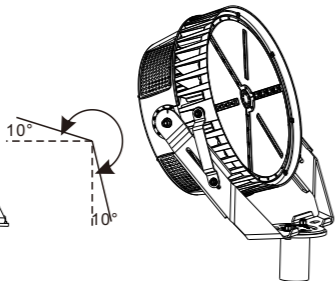

Figure 12
3. According to the need, carry out the projection angle adjustment, angle adjustment range (Figure 12);